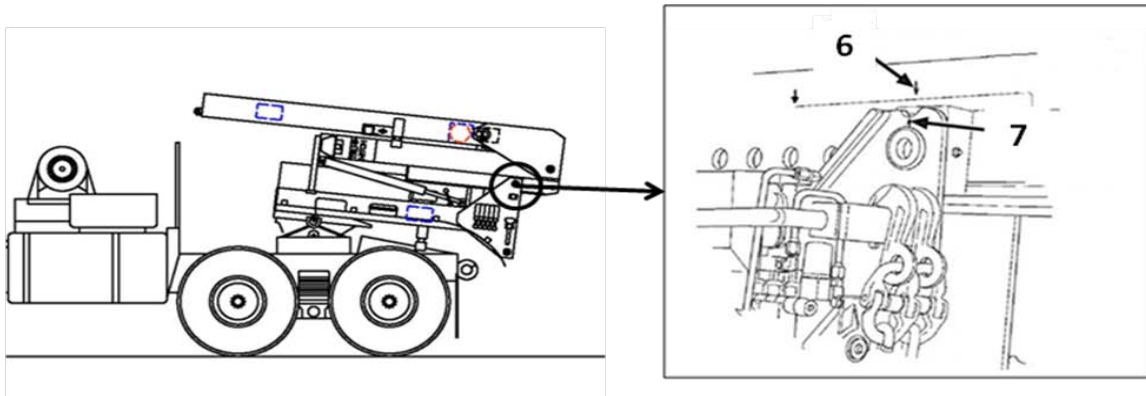

Figure 6 Alignment for pin insertion and Mast Supports
8. Using valve control levers or remote control, MAST EXTEND to line up arrows (6 and 7). (figure 6)